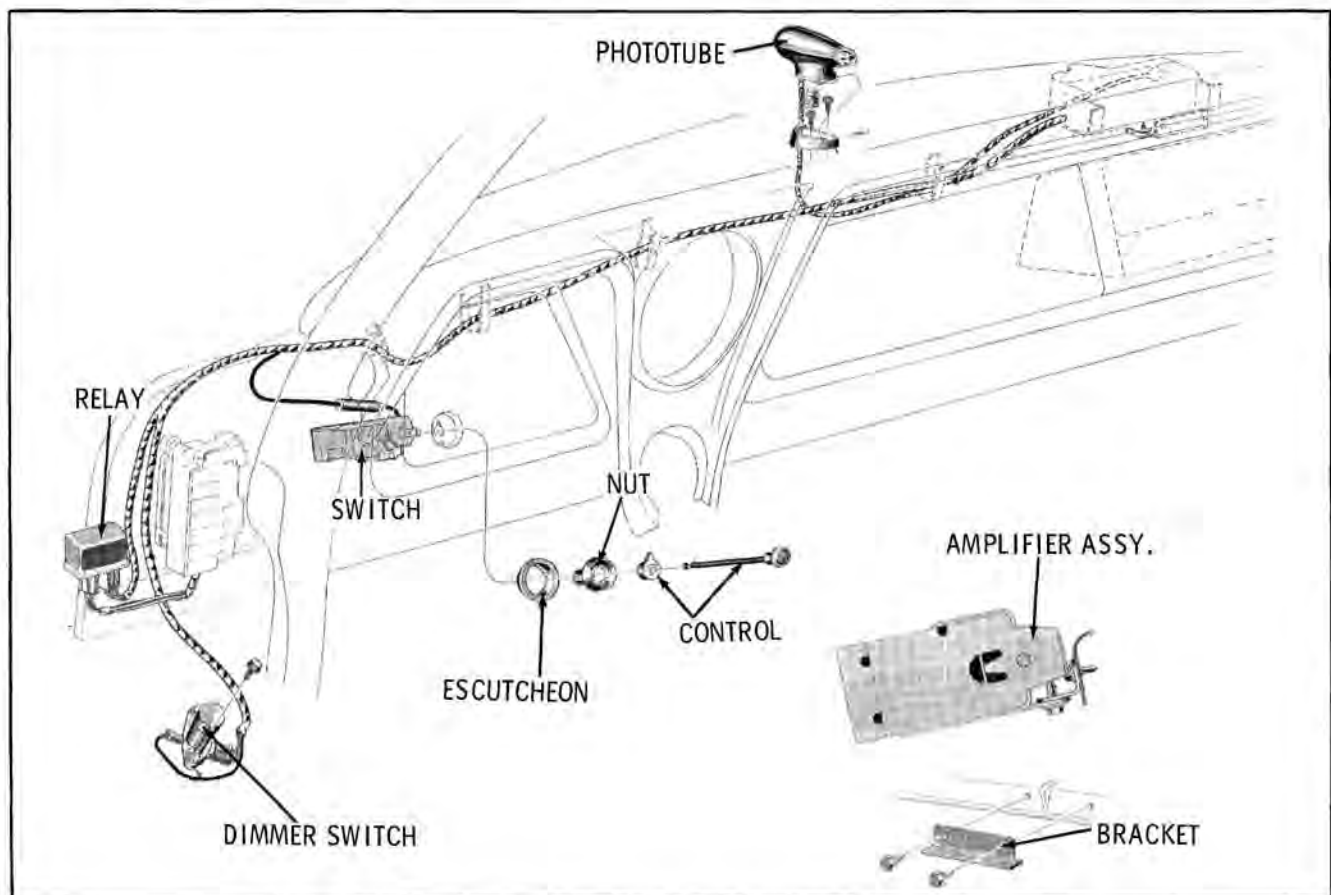

Fig. 12-43 Guide-Matic Installation
The Guide-Matic Power Headlight Control consists of: the phototube, amplifier unit, power relay, and a combination override and foot dimmer switch. (Fig. 12-43)
1. Disconnect the phototube unit harness plug from the amplifier. (Fig. 12-43)
1. Disconnect the fuse connector from the Guide-Matic "off-on" switch terminal on the headlight switch. (Fig. 12-43)